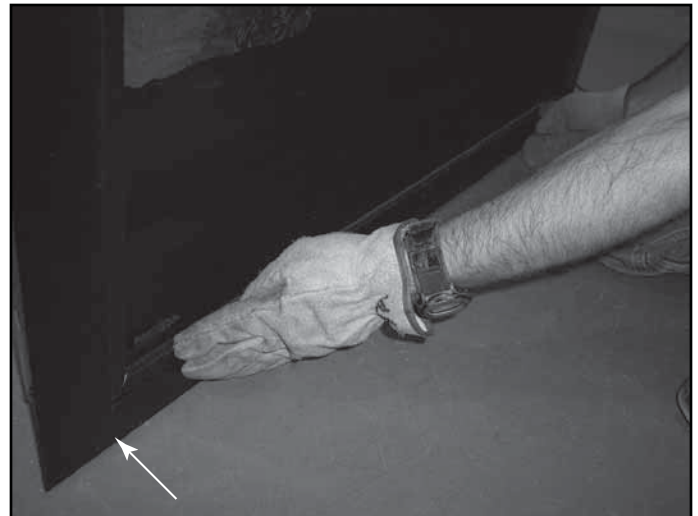

Figure 15.14 Press on Bottom of Screen
- Press in on the bottom of the screen until the magnetic touch latches close. See Figure 15.14.